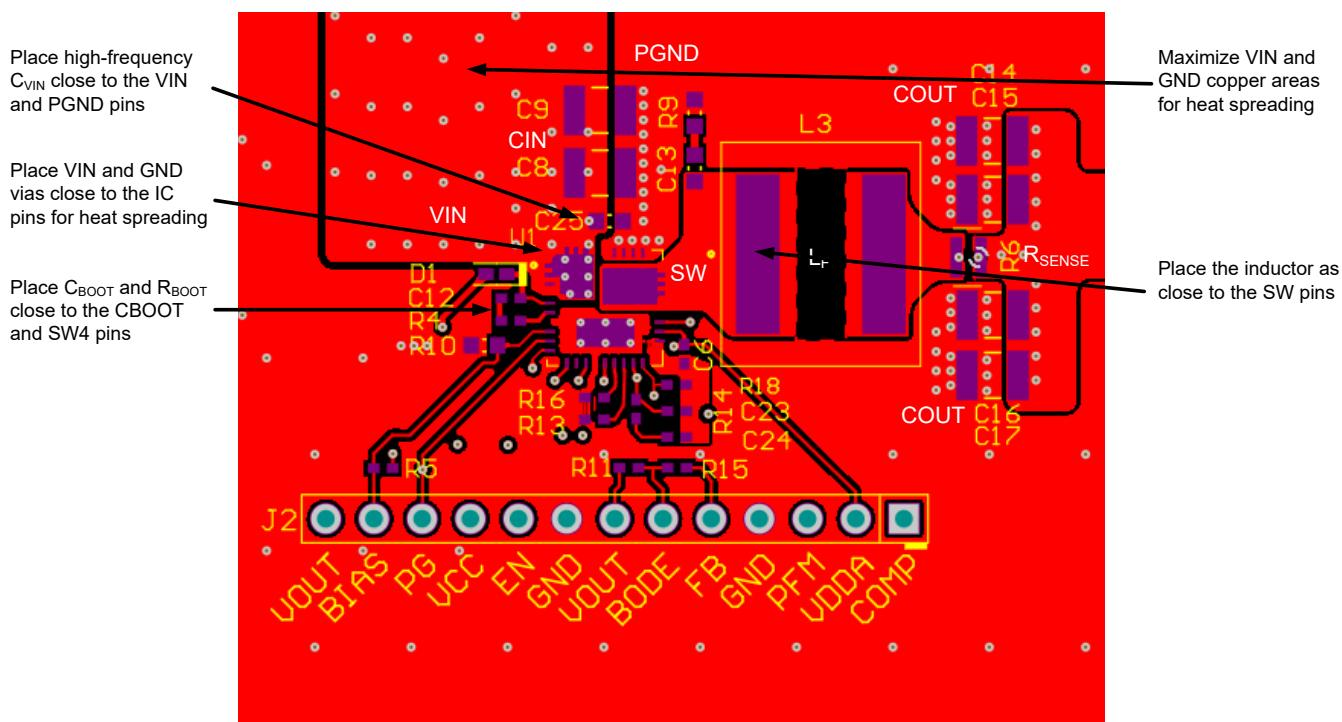

図 7-37. PCB Top Layer – High Density, Single-sided Design
The following list summarizes the essential guidelines for PCB layout and component placement to optimize DC/DC converter performance, including thermals and EMI signature. 图 7-37 shows a recommended layout of the LM706x0 with optimized placement and routing of the power-stage and small-signal components.
- Use low-ESR ceramic capacitors with X7R or X7S dielectric from VIN to PGND. Place an 0402 capacitor close to VIN for high-frequency bypass as shown in 图 7-37. Use additional 1206 or 1210 capacitors for bulk capacitance.